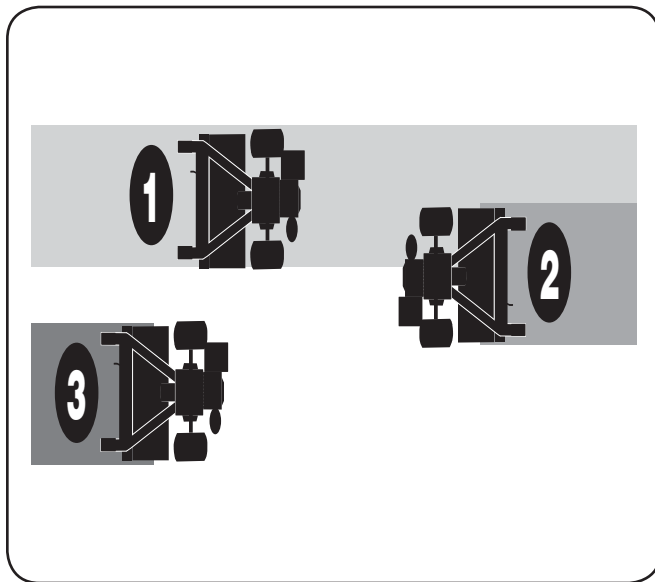

Figure 5-7
- If the garden size will not permit lengthwise and then crosswise tilling, overlap the first passes by one-half a tiller width, followed by successive passes at one-quarter width. See Fig. 5-7.